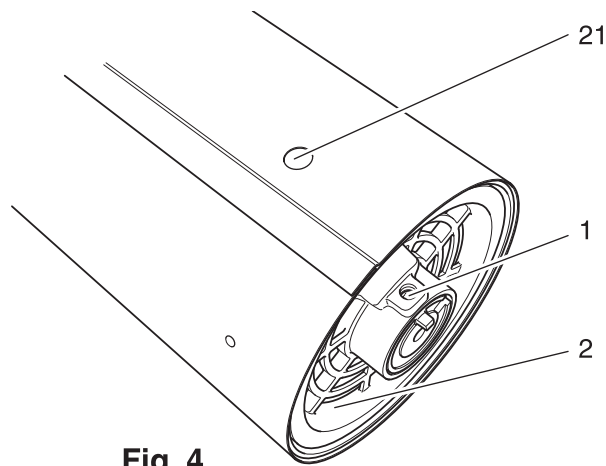

Fig. 4
- Loosen screws 1 of the left and right roller holders (fig. 4).
- While fitting driving units with flanged pipe 3, make sure that screw 20 is placed exactly under drill hole 21 (fig. 4).